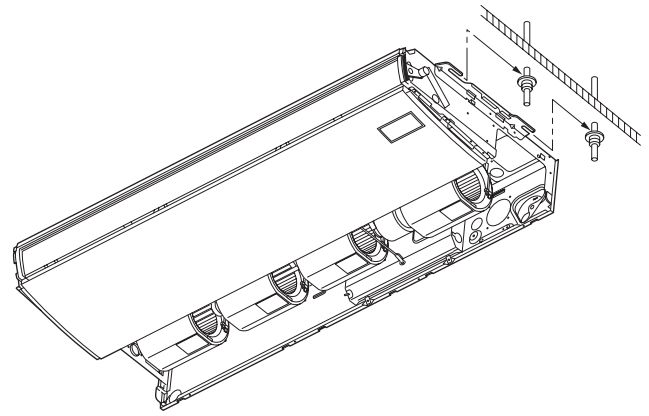

Fig. 3-46
- b) Lift the indoor unit, and place it on the washers through the notches, in order to fix it in place. (Fig. 3-46)